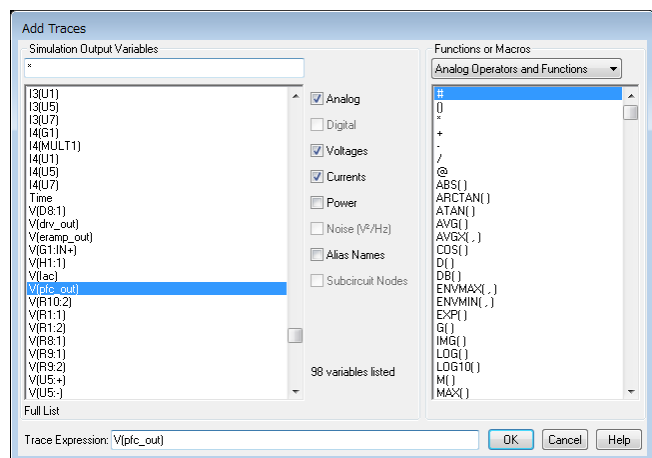

Fig. 5.6 "Add Traces" window
- (2) Then, the Add Traces dialog box shown in Fig. 5.6 appears. Select traces to be added to a selected plot. To view a voltage waveform, select  $V(\text{trace\_name})$ . To view a current waveform, select  $I(\text{device\_name})$ . See Fig. 5.6.